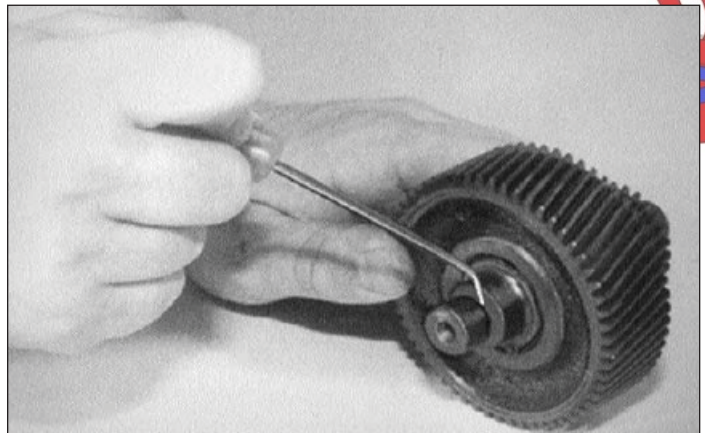

Figure 6-49. Removing O-rings from Intermediate Shaft & Gear
15. Remove O-rings (10) at each end of intermediate shaft on bearing shoulders (Figure 6-49).
16. Clean the axle housing and carrier cover (18) with lint-free rags. Remove all traces of old silicone sealant from sealing surface of cover and housing.